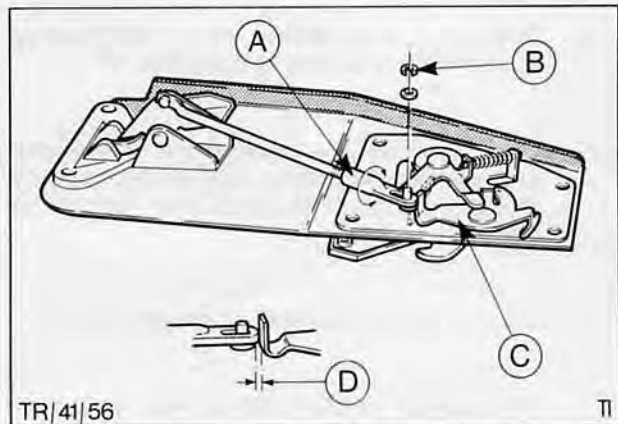

Fig. 39. Private lock lever and lock release rod adjustment.
2. Prise circlip Fig. 39 'B' off private lock lever pivot Fig. 39 'C' and disconnect interior release rod from pivot.
5. Place private lock lever in 'locked' position and adjust length of lock release rod Fig. 39 'A' until 0,040 in slip, or feeler gauge, just fits between end of lever and rod. Fit rod over lever pivot and secure with flat washer and circlip, Fig. 39 'B'.